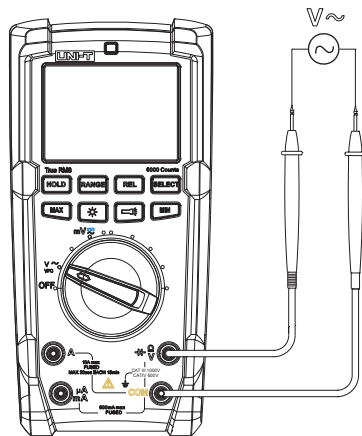

Figure 3
9.1 AC Voltage Measurement (See Figure 3)